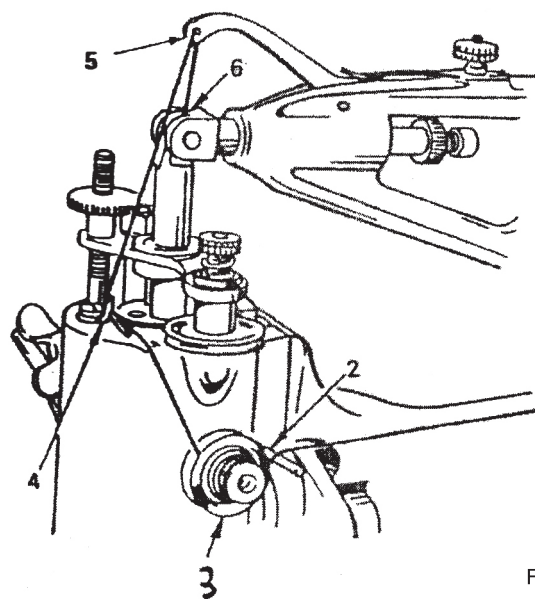

Fig.22
3. Pass thread over the pin 2 near the tension discs in front of the arm and from right to left under and between the tension discs 3. Fig.22.
3. 将缝线从绕线销2下方从右至左绕过, 然后从夹线器3右侧绕到左侧, 如图22。